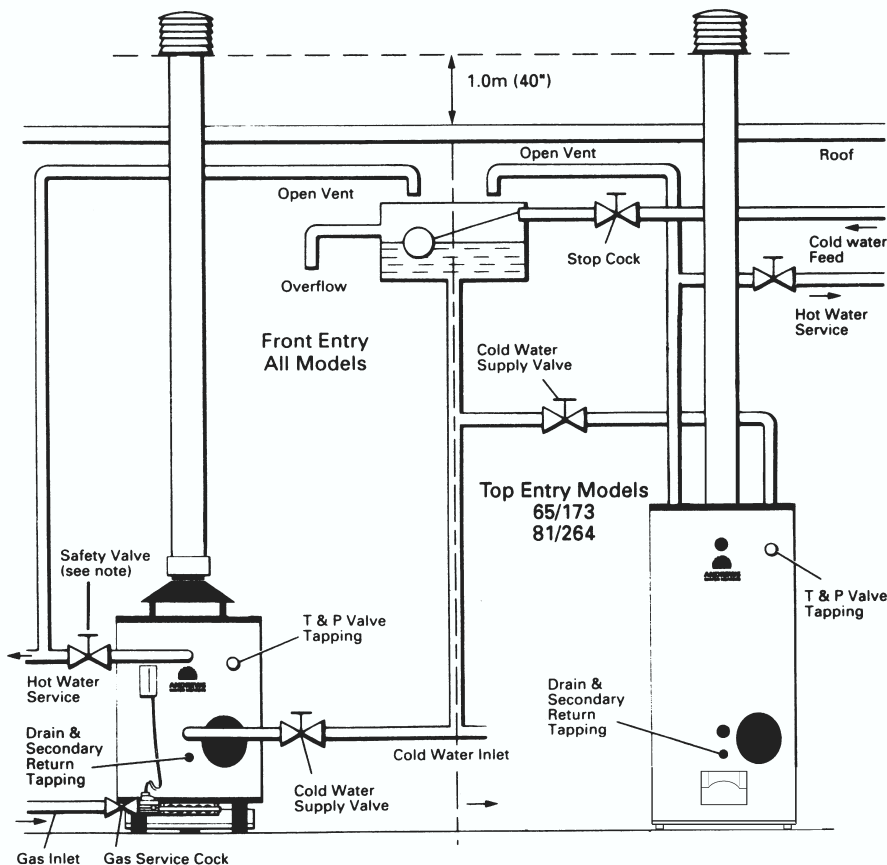

**Fig 12.**
**Typical water service layout for Hi-Flo Range single heater vented system is shown in Fig 12.**